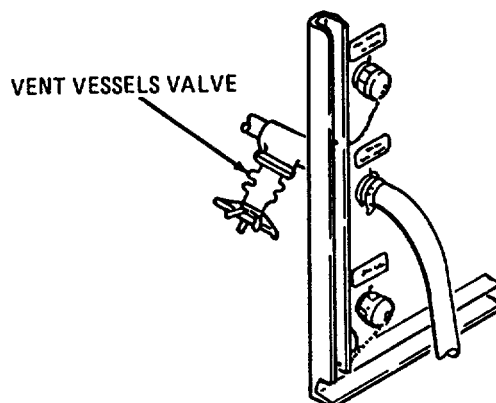

FIGURE 2-5. VENT VESSELS VALVE
e. Vent Vessels Valve. The vent vessel valve (figure 2-5) is located behind the control panel. Closing the vent vessels valve allows approximately 200-300 psi of filtered water pressure to build in R.O. vessels.